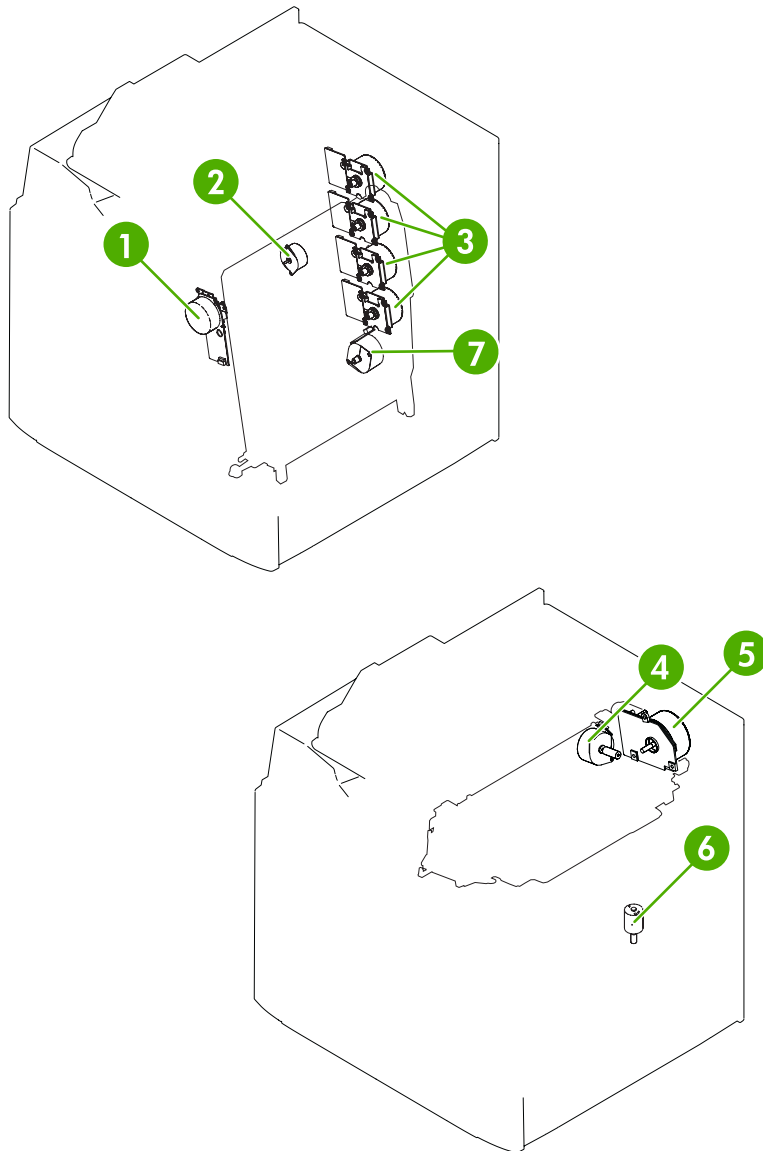

Figure 7-17 Motors
M1 - Yellow (Y) drum motor	See Figure 7-17 Motors on page 659 .
M2 - Cyan (C) drum motor	See Figure 7-17 Motors on page 659 .
M3 - Magenta (M) drum motor	See Figure 7-17 Motors on page 659 .
M4 - Black (K) drum motor	See Figure 7-17 Motors on page 659 .
M5 - Fuser motor	See Figure 7-17 Motors on page 659 .
M6 - Fuser pressure release motor	See Figure 7-17 Motors on page 659 .
M7 - ETB motor	See Figure 7-17 Motors on page 659 .
M8 - Developing disengaging motor	See Figure 7-17 Motors on page 659 .
M9 - Pickup motor	See Figure 7-17 Motors on page 659 .
M10 -Lifter motor	See Figure 7-17 Motors on page 659 .
M8001 - Reversing motor	See Figure 7-17 Motors on page 659 .